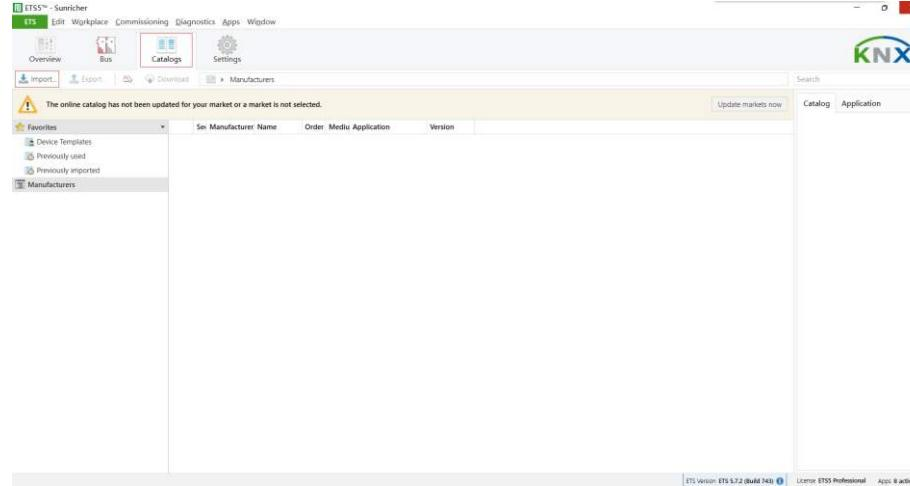

Figure 14
2.1. Import device and database, click on “**Catalogs**” on the top, then click on “**Import**” to import the device database as shown in Figure 14.